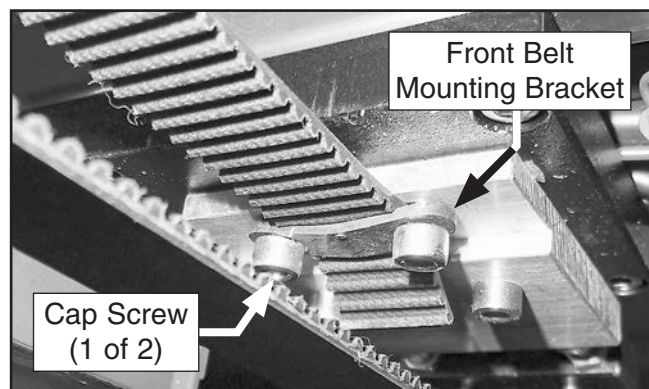

Figure 85. Y-axis front belt mounting bracket location.
5. Remove (2) cap screws on front belt mounting bracket securing Y-axis synchronous belt, then remove bracket from belt (see **Figure 85**).